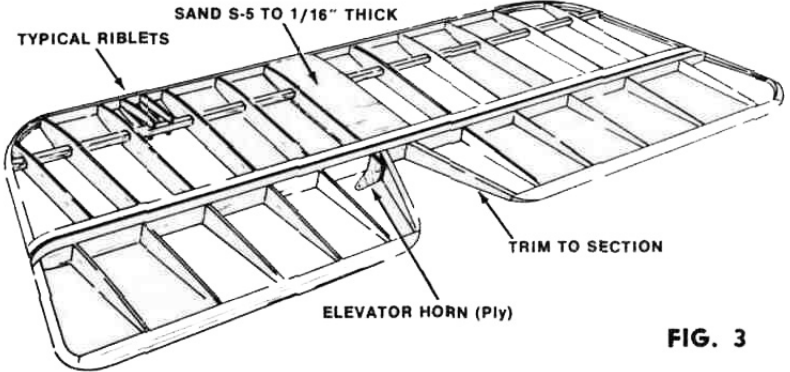

FIG. 3
6. While this assembly is drying start on the stabilizer See Figure 3. Pin down the 1/4" x 1/2" stab trailing edge (T E) to the plan Cut a piece of 1/4" sq to length for the spar and thread ribs S-1, S-2 and S-3 onto the spar in correct order Do not glue the joints yet. Glue and pin the ribs to the T E Note that the center two ribs must be shimmed up 1/16" to bring the ribs centered on the TE